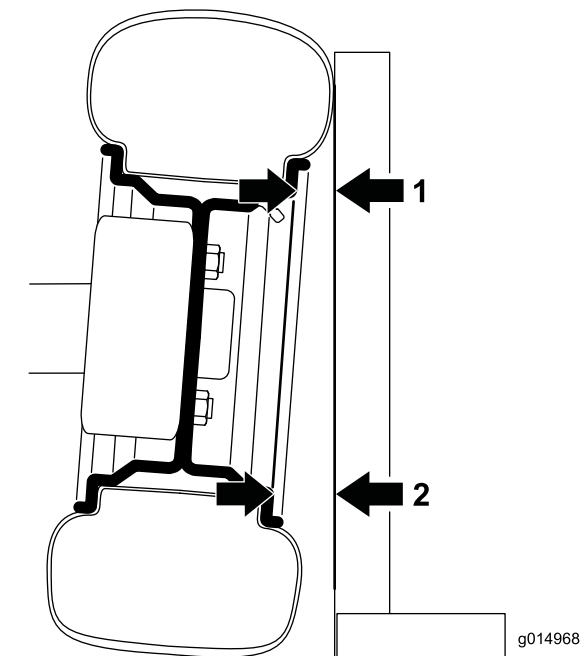

Figure 30
1. To check the camber, place a 90-degree square on the ground, with the vertical edge touching the face of the tire (Figure 30).
2. Measure from the same part of the rim on the top and bottom of the tire to the square (Figure 30).